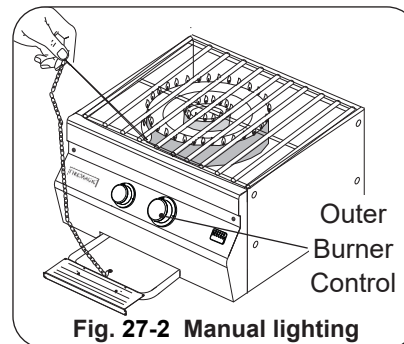

Fig. 27-2 Manual lighting
**WARNING:** **DO NOT** put hand directly above the burner when lighting but off to the side as shown (Fig. 27-2).
- 2a. Insert either a burning long-barrel butane lighter, a burning long-stem match, or a burning match held by a wire extension holder through the cooking grids to the desired burner to be lit (Fig. 27-2). **With the flame still next to the burner, depress the corresponding control knob (outer burner- right knob, inner burner- left knob), and while pressing turn it counterclockwise to the HI LIGHT position.** Remove the lighter or match when the burner lights, and release the control knob.
3. If the burner does not light within five (5) seconds of turning the control knob, **IMMEDIATELY** turn the burner control knob to the **OFF** position. **WAIT FIVE MINUTES** before repeating steps 2 and 3 of the **MANUAL LIGHTING INSTRUCTIONS**.